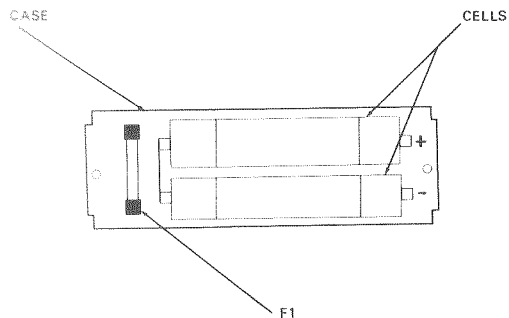

FIGURE 6-1. 461-2, FUSE LOCATION
6.6.1 The current fuse is mounted inside on the battery board as shown in Figure 6-1. Use the following procedures to replace the fuse.